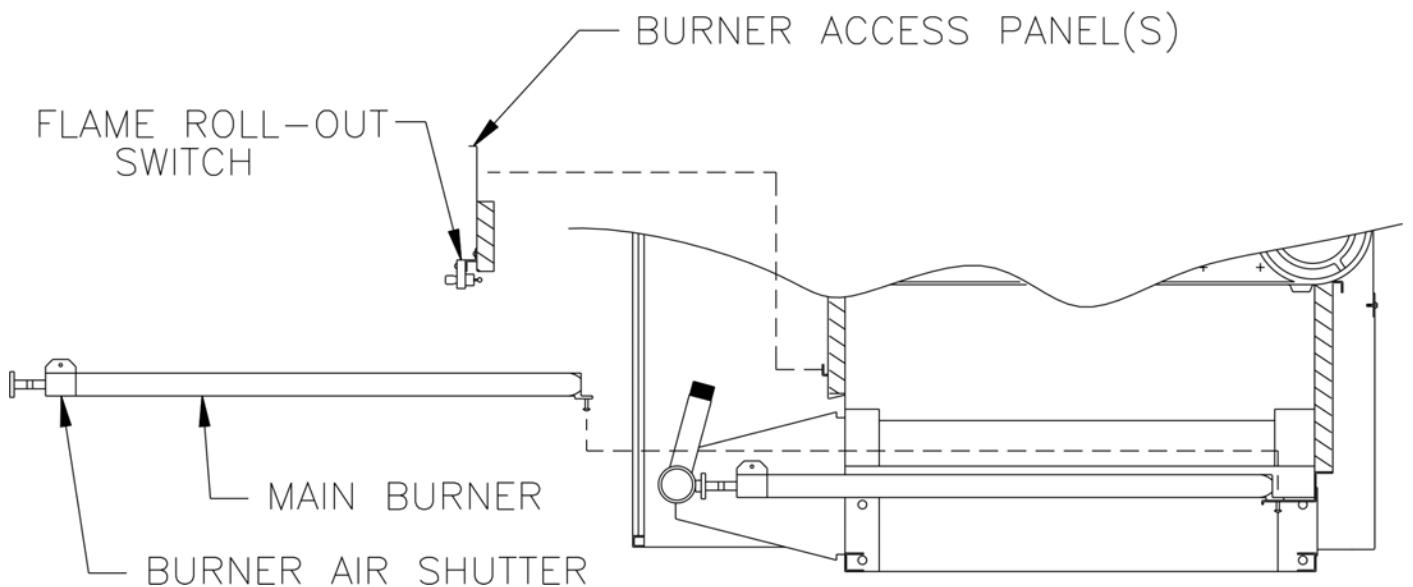

Figure 7: Burner/Burner Access Panel Installation
- K. **Install Pilot/Main Burner Assembly.** See Figure 7. Assembly is located in Combination Boiler Parts and Control Carton. Verify assembly is properly located on support bracket in Base Rear Panel, seated on Main Burner Orifice, and secured with hitch pin clip.
- L. **Adjust Burner Air Shutters on all Burners.** See Figure 7. (On Packaged Boilers, Front Door and Burner Access Panel(s) must be removed to make adjustments.) Distance between front edge of Burner Air Shutter and burner mounting ring should be approximately $11/16$ ". To adjust this distance, loosen screw at top of air shutter and slide into correct position. Then tighten screw. (Replace Burner Access Panel(s) and Front Door on Packaged Boilers.)